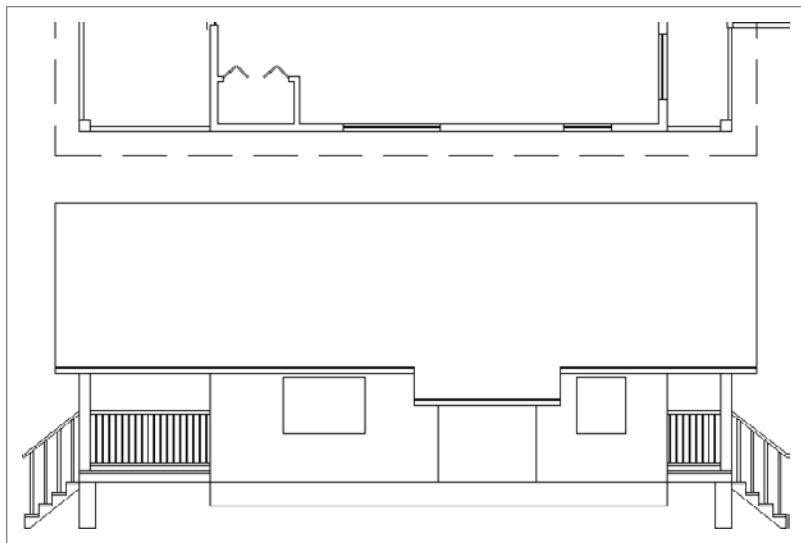

FIGURE 10.37 The cabin drawing rotated 180° and zoomed in
8. Zoom into the lower edge of the floor plan and the mirrored elevation (see Figure 10.37). Now you can work on the rear elevation.